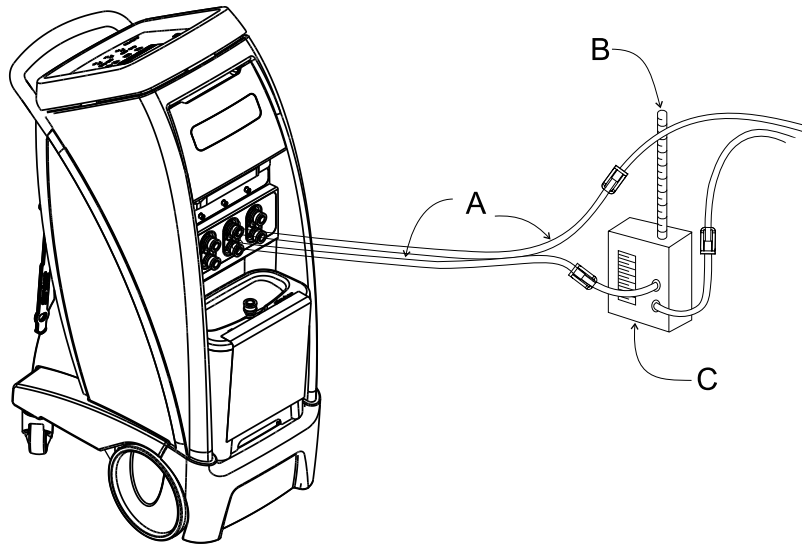
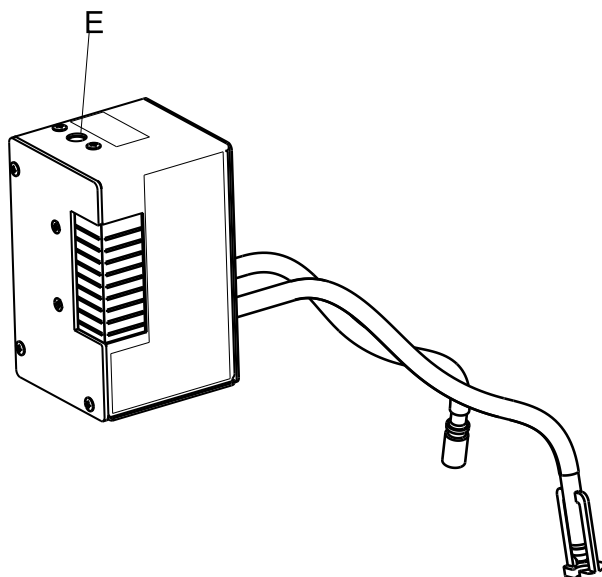

Figure 53 – Connect to controller
Figure 55 – Insert temperature probe
1. Connect two 12" loop back hoses (A) to ports 2 and 3 (Figure 53).
2. Connect the **Clik-Tite** hose or the **Colder** style connector hose to the adaptor hose on port 1 and to the TPT10 flow meter (C) (Figure 53).
4. Turn on the reference temperature thermometer and insert the temperature probe (B) into the hole (E) (Figure 55). See temperature probe (B) installed (Figure 53).